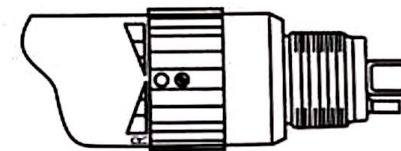

Fig. 5
(3) When the FWD/REV Change Ring is positioned in the middle of "F" and "R", the drive air is interrupted and the motor does not rotate. (Fig. 5)